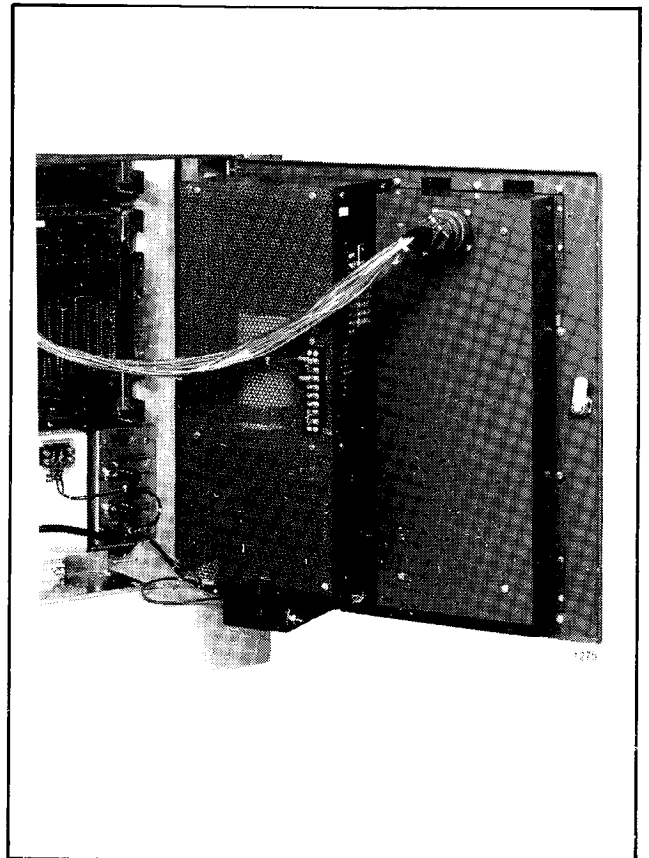

Fig. 2-5 Primary Power Supply
2.14 The system primary power supply (Fig. 2-5), mounted directly on the cabinet back panel, (total weight 70lb., 32kg) provides all system power from 115Vac or 230Vac, 48Hz to 64Hz commercial power supply.